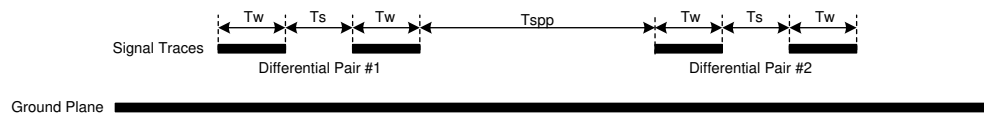

図 9-16. DMD Differential Layout Recommendations
DLPC7530 I/O timing parameters as well as DMD I/O timing parameters can be found in their corresponding data sheets. Similarly, PCB routing mismatch can be budgeted and met through controlled PCB routing. PCB design recommendations are provided in 表 9-8, 図 9-16, and the paragraph below as a starting point for the customer.
- (1) Recommendations to achieve the desired nominal differential impedance as specified by  $R_{DIFF}$  in セクション 5.7.
- (2) These parameters show recommendations based on the micro-strip design shown in 図 9-16. This design minimizes signal loss to support longer trace lengths at the expense of electromagnetic interference (EMI). The designer has the option to use a stripline design for shorter trace lengths and to target minimizing EMI at the expense of signal loss.
- (3) A reduced inter-lane spacing can be used to escape the controller ball field, however, widen this spacing to at least the stated minimum after the escape.